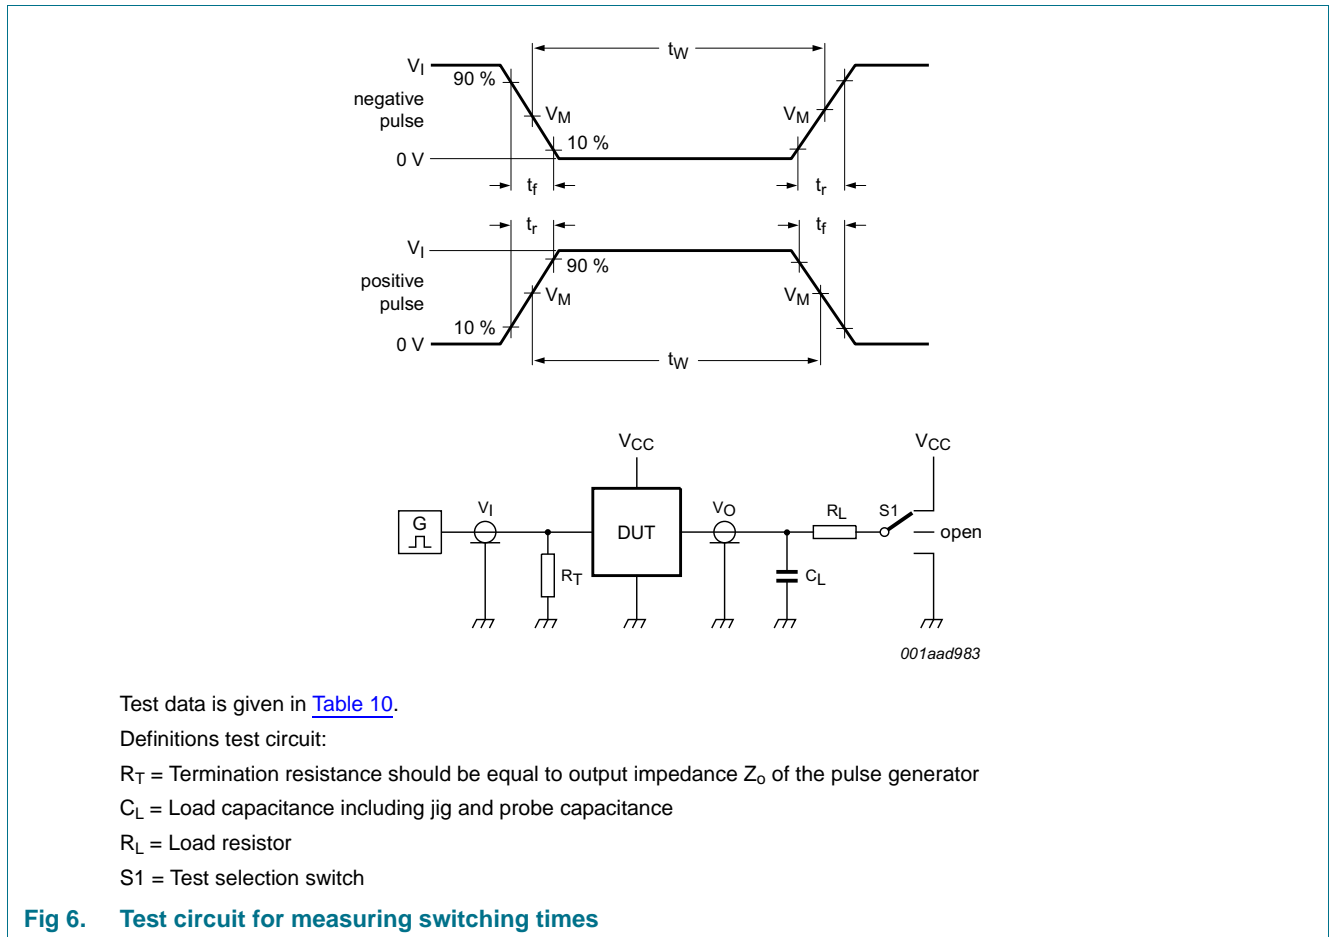

Fig 6. Test circuit for measuring switching times
*GND = 0 V. For test circuit, see Figure 6.*
GND = 0 V. For test circuit, see Figure 6.